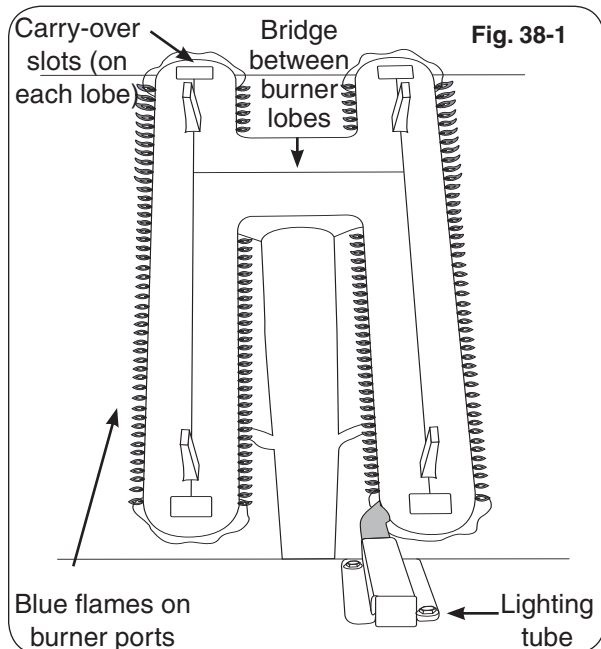

Fig. 38-1
Flames from a properly adjusted main burner with no wind or breeze present will appear fairly steady, consistent, and mostly blue. If the tip of a flame were to turn orange, it should only do so briefly and then become blue again. The flames will appear to burn while touching the burner ports (see Figure 38-1).
6. Repeat steps 1-4 until the flames appear to touch the burner ports, burning fairly steadily and mostly blue (see Fig. 38-1).